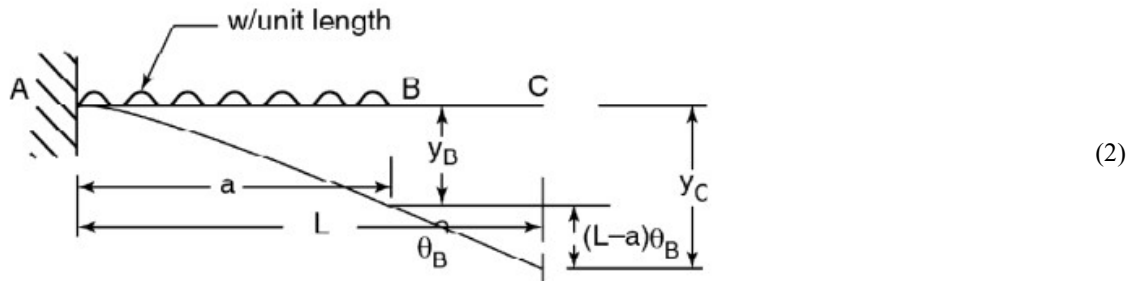

Figure 8
C) Find the deflection at the free end in a cantilever beam shown in Figure 8 using double integration method